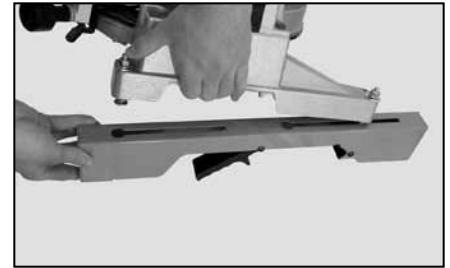

Figure 6
6. Lift one end of the machine off floor and insert heads of carriage bolt into round end of slots on quick-mount machine supports as shown in Figure 6. Slide to desired location on support. Tighten nuts by hand.
7. Repeat process in Step 6 on other end of machine. Tighten all (4) nuts with wrench.